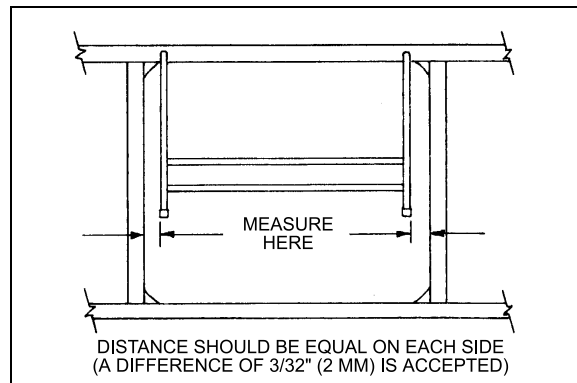

FIGURE 53: PANTOGRAPH DOOR ADJUSTMENT 18063
- When the door is straight, remove the 2x4's and check door operation and fit. A difference of $3/32$ " (2mm) between both sides is accepted (Fig. 53).